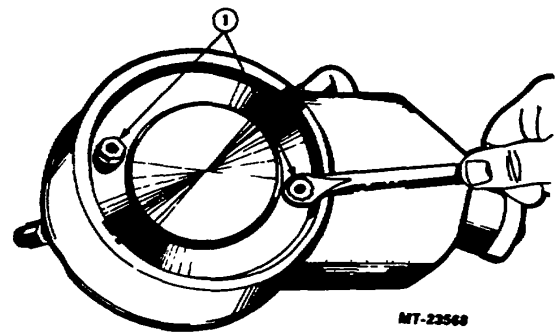

Fig. 12 Remove Retaining Nuts
3. Remove reservoir retaining nuts, Figure 12.